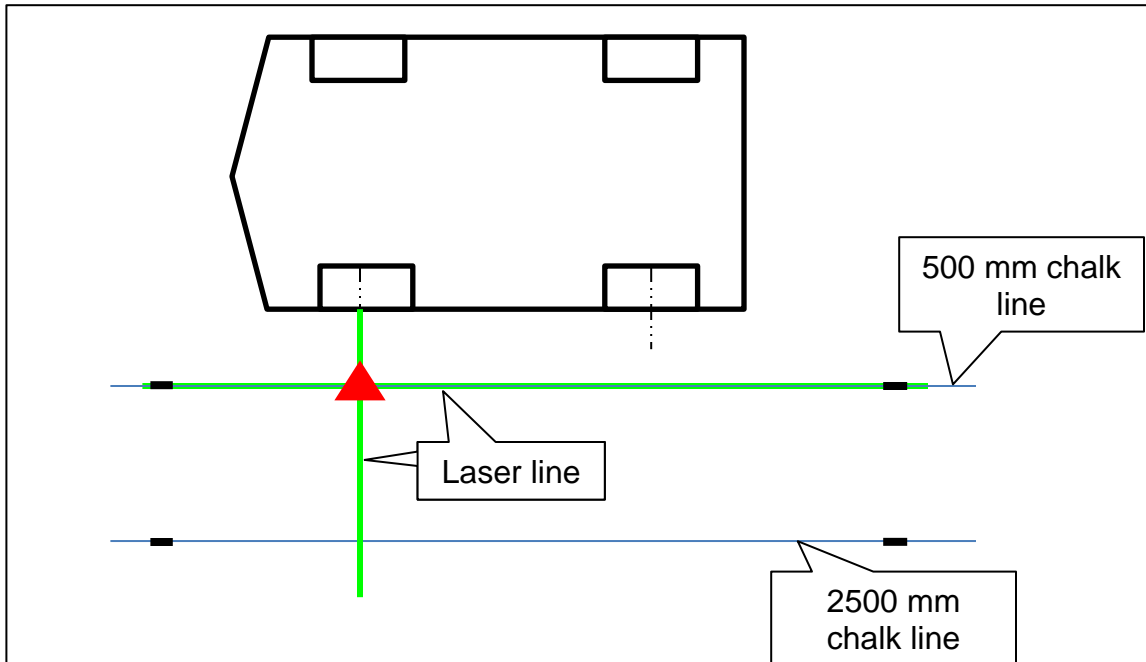
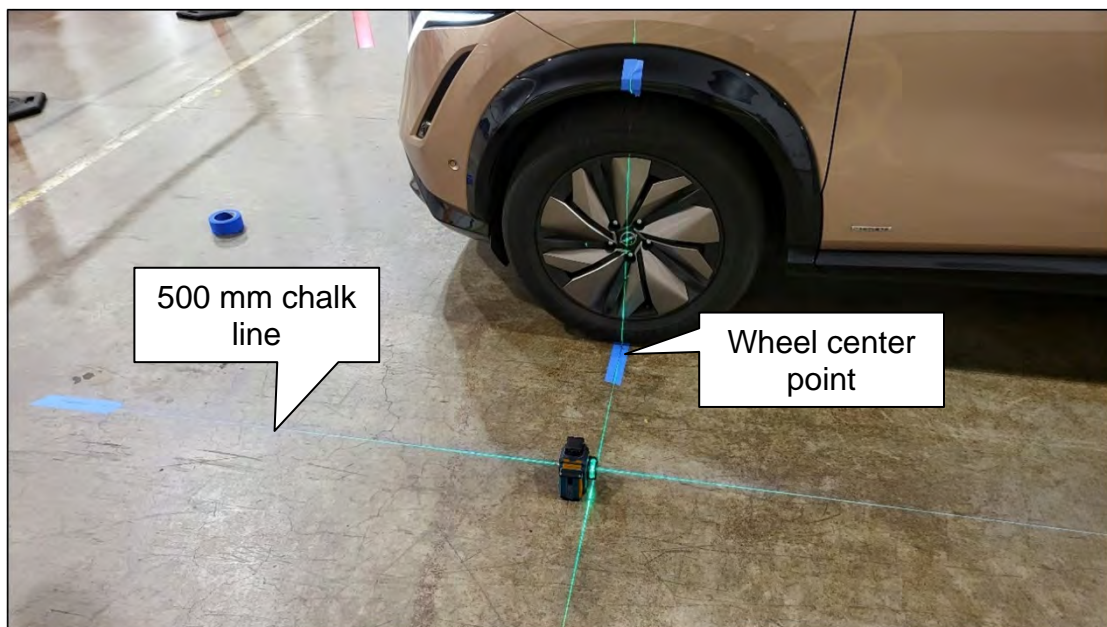

Figure 33
Figure 34
24. Place the laser level with both vertical lines activated, and align one laser line with the 500 mm chalk line and align the other laser line to the center point on the front driver (LH) side wheel, as shown in Figure 33 and Figure 34.